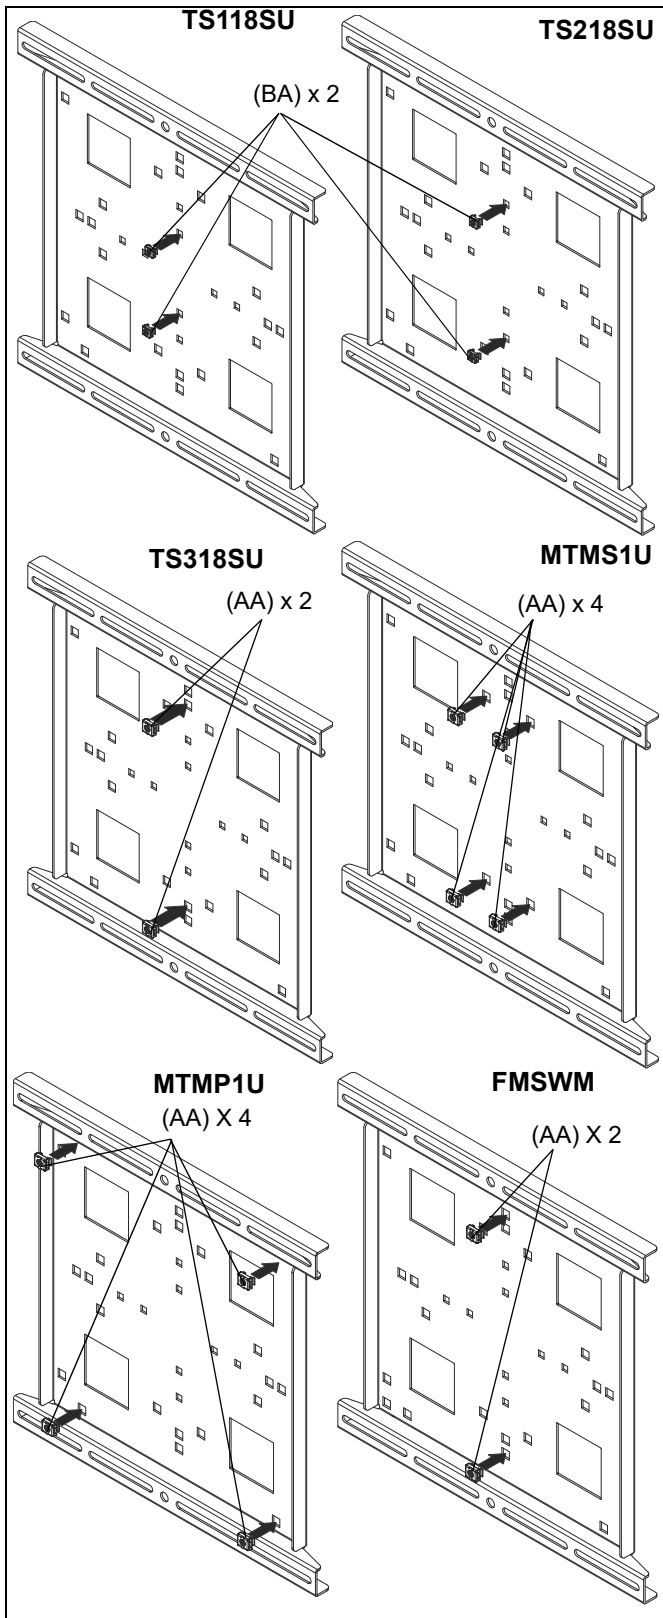

Figure 1
1. Install cage nuts (AA or BA) to appropriate holes on mounting plate (C) depending on what mount will be installed. (See Figure 1)